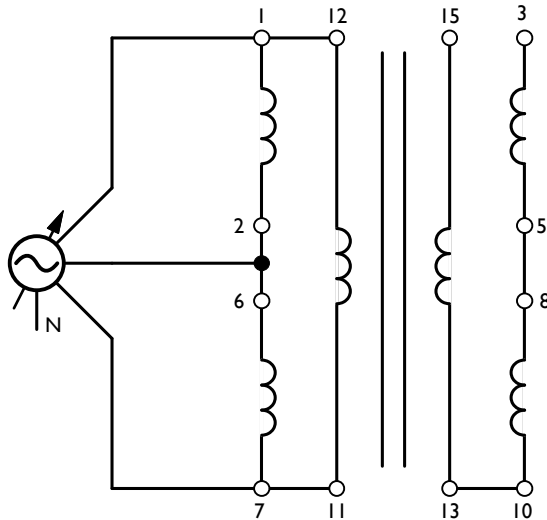

Figure 2.4: Three-Phase Transformer Connected in Delta-Delta
16. With the power off, connect the Three-phase Transformer module in the $\Delta - \Delta$ configuration shown in Figure 2.4.